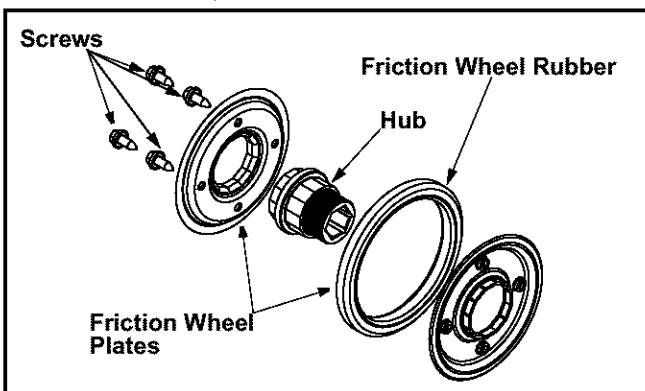

Figure 30
- Remove the four screws from the friction wheel assembly. See Figure 30.
- Reassemble new friction wheel rubber to the friction wheel assembly, tightening the four screws in rotation and with equal force. See Figure 30.